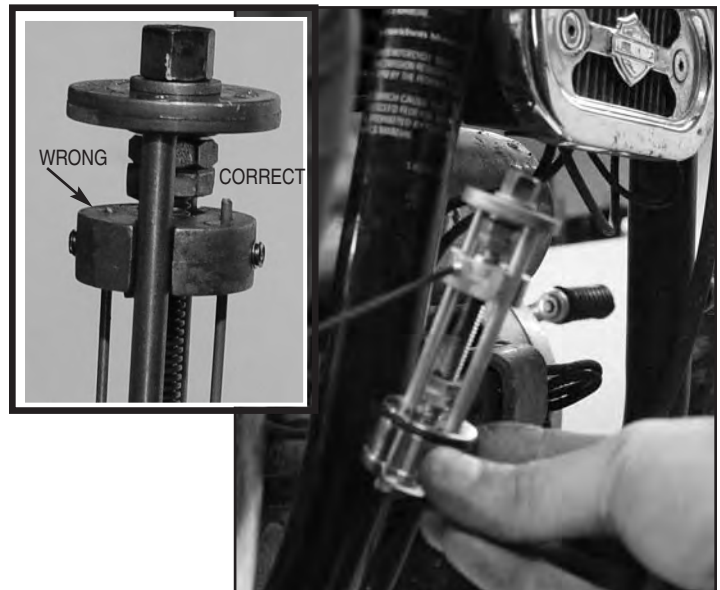

Figure 13
4. Before tightening Set Screws (c) it may be necessary to pull gently on wire of cable so Wire is exposed slightly. **Figure 13**
5. Tighten Set Screws (c). (**5/64" Allen Wrench**) **Figure 13**